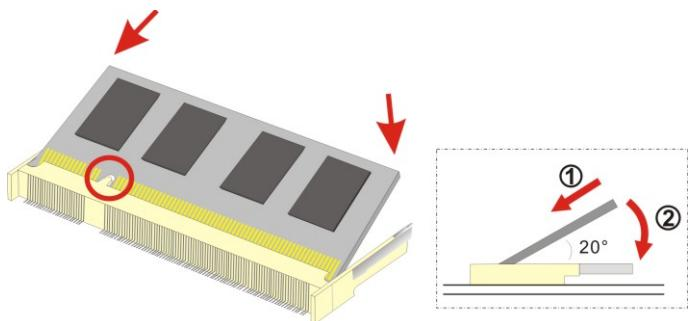

Figure 7-2: SO-DIMM Installation
Step 4: Align the new SO-DIMM with the socket. The SO-DIMM must be oriented in such a way that the notch in the middle of the SO-DIMM must be aligned with the plastic bridge in the socket (**Figure 7-2**).
(Figure 7-2).
Step 6: Open the SO-DIMM socket arms. Gently pull the arms of the SO-DIMM socket out and push the rear of the SO-DIMM down. (See **Figure 7-2**)